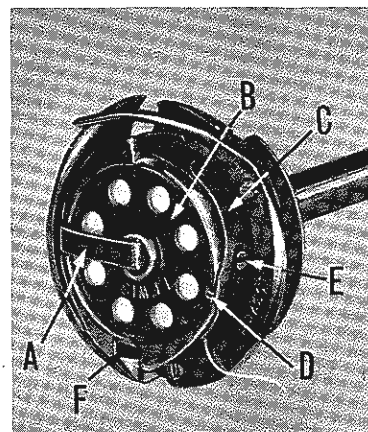

Fig. 15
Open the bobbin case latch (A, Fig. 15), and insert bobbin (B) so that the thread will come off the bottom of the bobbin in the direction of the bobbin case tension spring (C) and through the notch (D) in the bobbin case. Close bobbin case latch. The tension on the bobbin thread is controlled by turning screw (E) in the required direction. For easier access to this screw, have the needle carrier at high position.
To replace the foot, keep the plunger at its lowest position. Press the knee lifter and place the foot in position on the frame. Replace and tighten the two screws that hold the foot on the head casting, being sure to see that the groove in the bobbin case (F, Fig. 15) fits over the projection